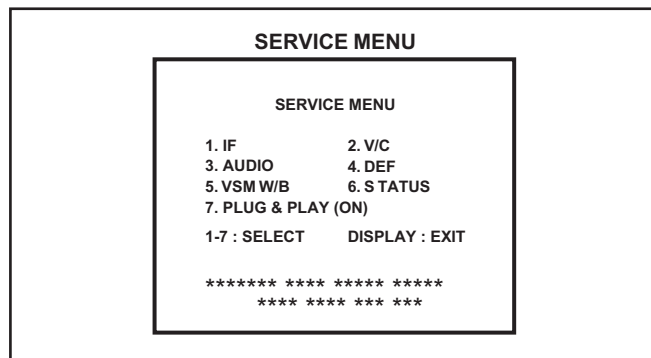

Fig.1
- (1) Press the **[DISPLAY]** key and the **[PICTURE MODE]** key of the REMOTE CONTROL UNIT simultaneously.
- (2) The SERVICE MODE screen of Fig. 1 will be displayed.
Verify what to set in the SERVICE MODE, and set whatever is necessary (Fig.1).